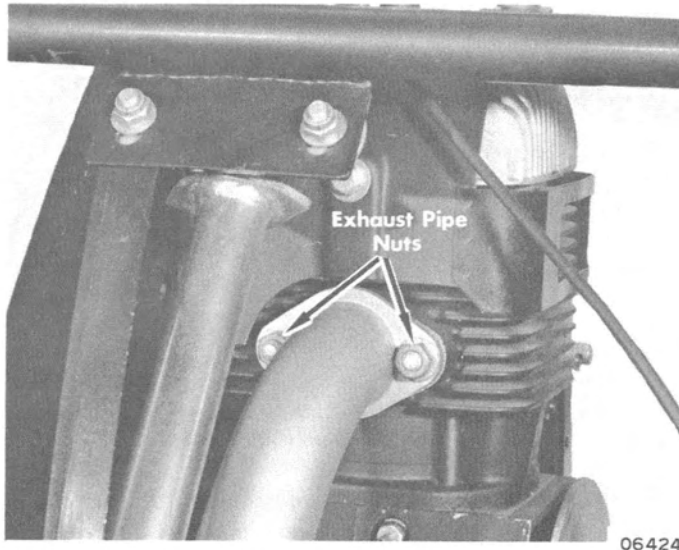

Figure 1. Removing Exhaust Pipe Nuts
3. Remove 2 nuts and washers from exhaust pipe. (Figure 1)